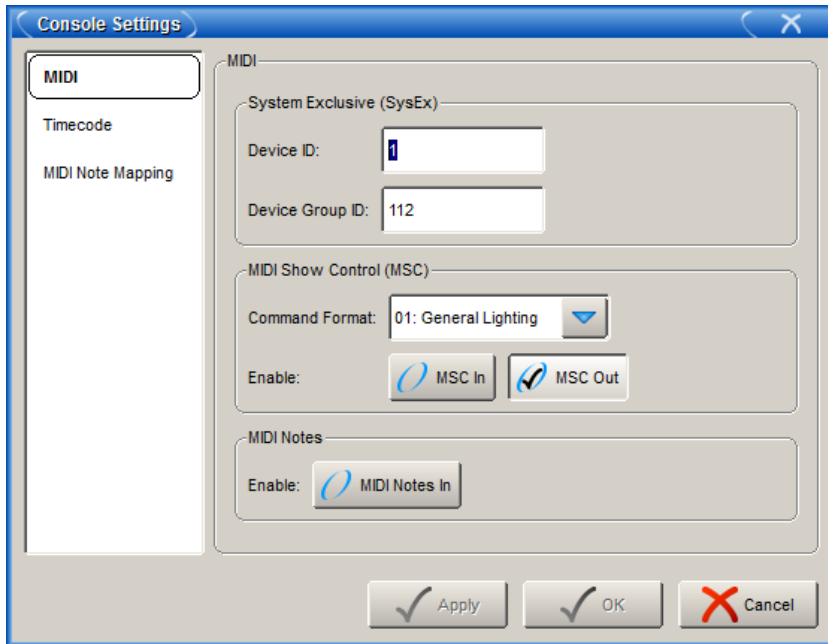

Figure 28.3. The MIDI pane of the Console Settings window
4. Settings : open the Settings window; see *Figure 28.3, “The MIDI pane of the Console Settings window”*.